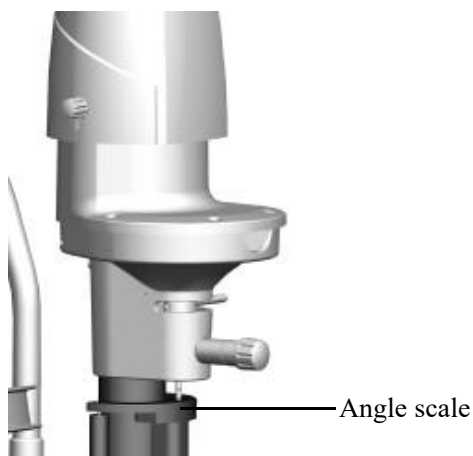

Figure 3.4.3
3. Rotating slit image: horizontally move aperture selection knob can rotate the slit image at any angle between vertical and horizontal. The angle of rotation can be displayed by the scale board. Each small grid is 5, and the larger grid is 10. (See Figure 3.4.3).